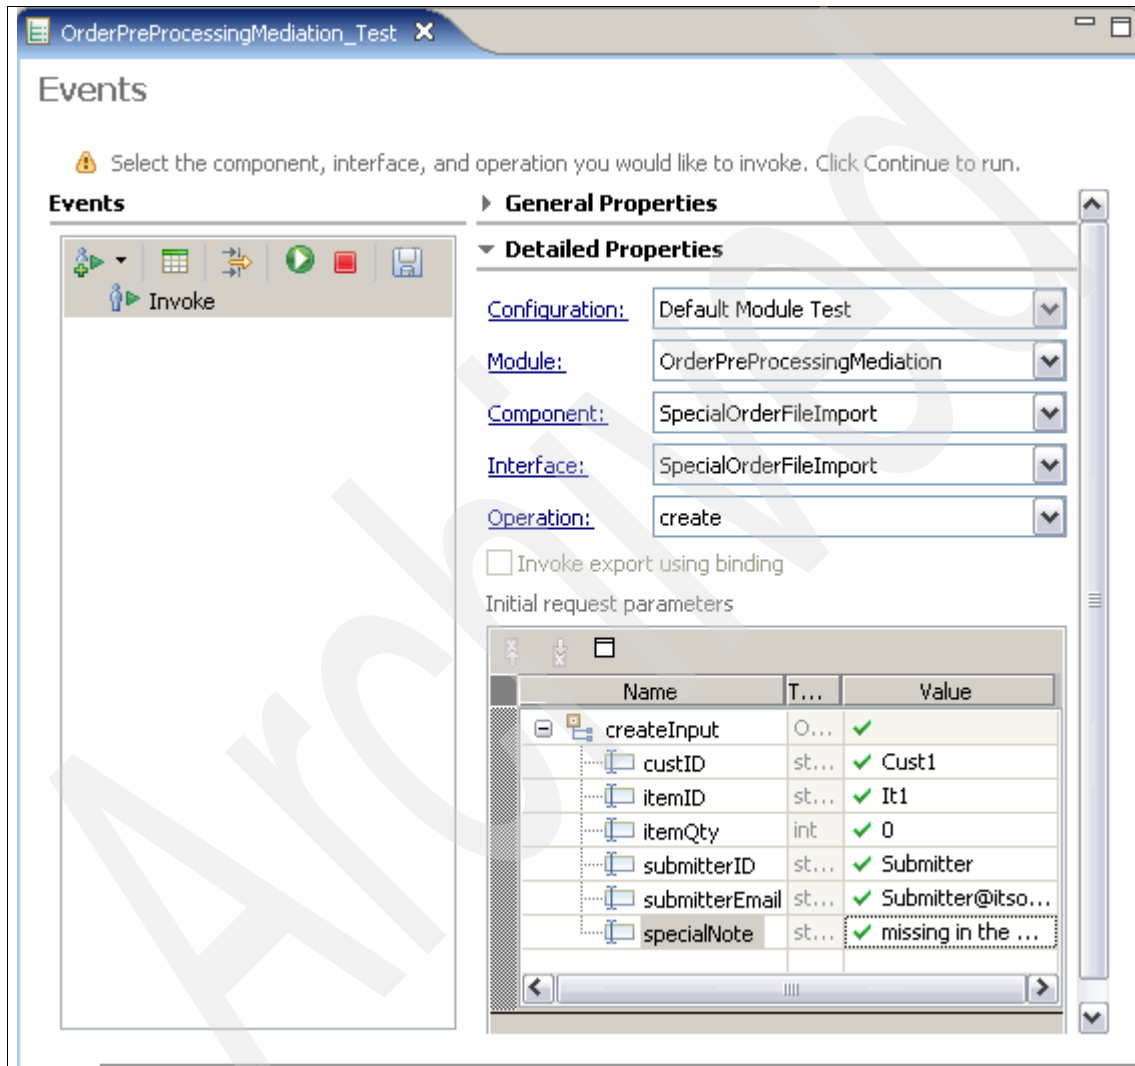

Figure 4-22 Test panel
4. A new view opens for the test properties (Figure 4-22).
- a. Verify that the test properties are as shown in Figure 4-22. Ensure that you are testing the SpecialOrderFileImport component.